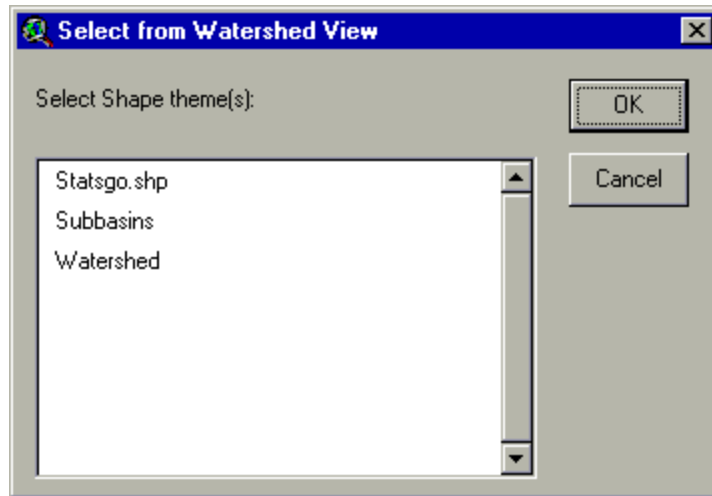

Figure 6.28
- i. If loading from the *Watershed View*, a dialog is displayed (Figure 6.28) showing the list of shape themes.